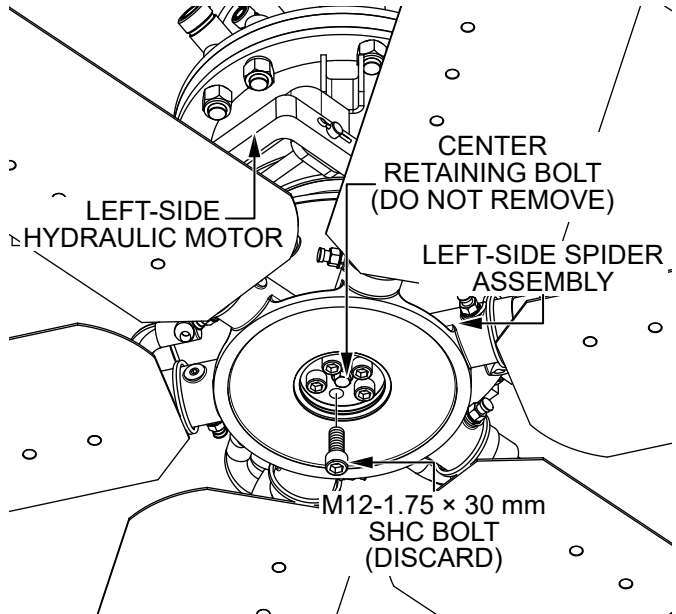

Figure 13. Remove Left-Side Spider Bolt
2. Remove and discard **one** of the existing M12-1.75 x 30 mm SHC bolts (Figure 13) securing the left-side spider assembly to the bottom of the left-side hydraulic motor.